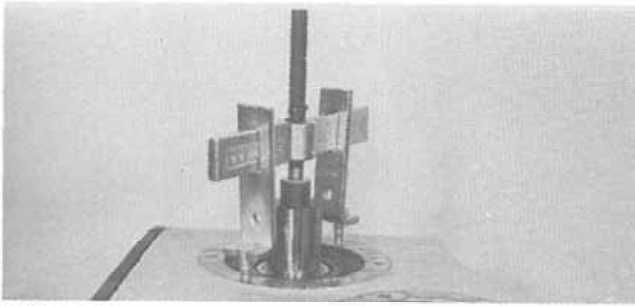

Figure 11:
9. The output shaft must exit from the **FRONT** of the housing (Fig. 11) when pressing to remove the bearings or shaft. Protect the threads on the shaft ends during pressing operations. Remove the gear from the housing.